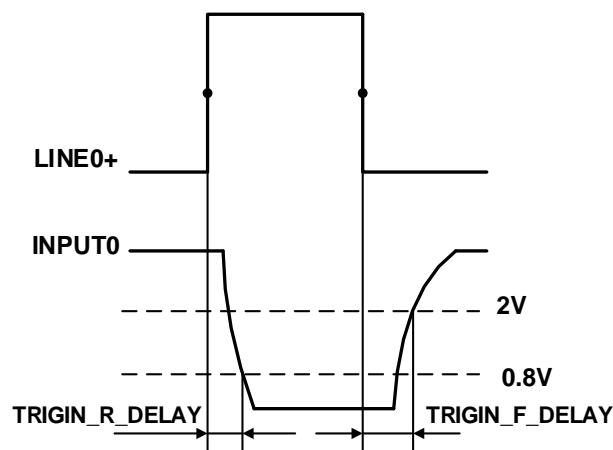

Figure 7-4 Parameter of opto-isolated input circuit
- Rising edge delay: <50 μ s (0°C~45°C), parameter description as shown in Figure 7-4
- Falling edge delay: <50 μ s (0°C~45°C), parameter description as shown in Figure 7-4
- Input rising time delay: <2μs (0°C~45°C), parameter description as shown in Figure 7-4
- Input falling time delay: <2μs (0°C~45°C), parameter description as shown in Figure 7-4